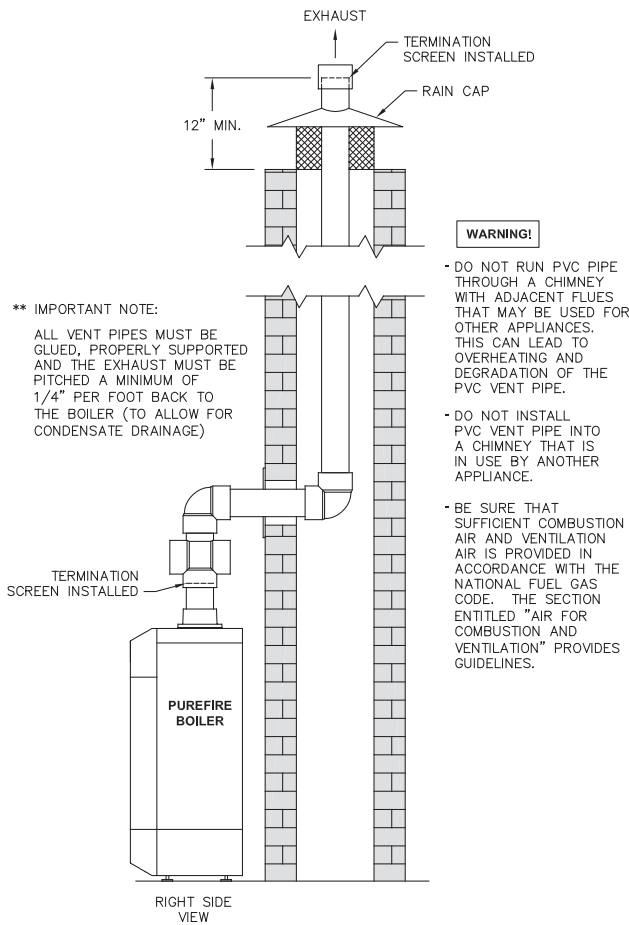

Figure 3.10
- Figure 3.10 shows an option for routing the exhaust through an unused chimney with the combustion air supplied from inside the building. Be sure to note the requirements for combustion air as listed under Section 1.D. "Combustion and Ventilation Air". These requirements are in accordance with the National Fuel Gas Code.